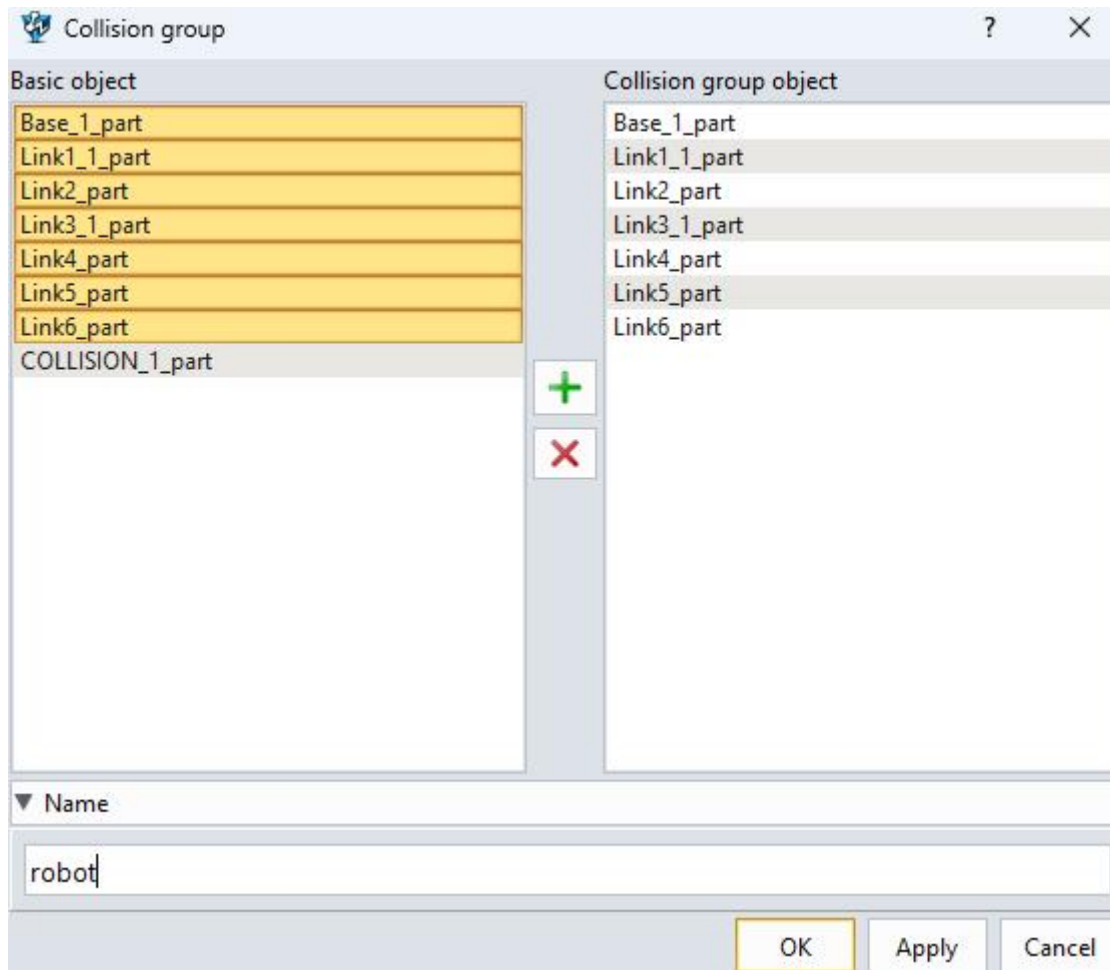

Figure 11-12: Robot collision group
- Name the newly created collision group “Robot”. (Figure 11-12)